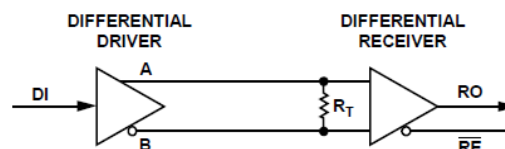

FIGURE 9 - PARALLEL OR DC TERMINATION.
- b) **PARALLEL TERMINATION:** When two or more drivers share a pair of wires, each end of the link has a termination resistor equal to the characteristic impedance of the cable. There should be no more than two terminating resistors in the network regardless of how many nodes are connected (see Figure 9 where only the case of a differential driver sending information to a differential receiver is reported. The case of bidirectional line is discussed in the following). In a half-duplex configuration, both ends of the cable must be terminated. In a full duplex configuration only the master receiver and most remote slave receiver need to be terminated, as shown in Figure 5. This is the most popular solution for termination and it is known also as DC termination. Resistive termination have typically values of 120Ω although twisted-pair cable impedances can be as low as 100Ω . Please note that the 100Ω value is too small for EIA-485 drivers.
false interrupts, and framing errors. This problem can be solved by placing a combination of pull-up and pull-down resistors at one position on the bus. Figure 9 shows the biasing resistor circuit. An example of calculating R_1 and R_2 is shown below (assume $R_T = 120 \Omega$):